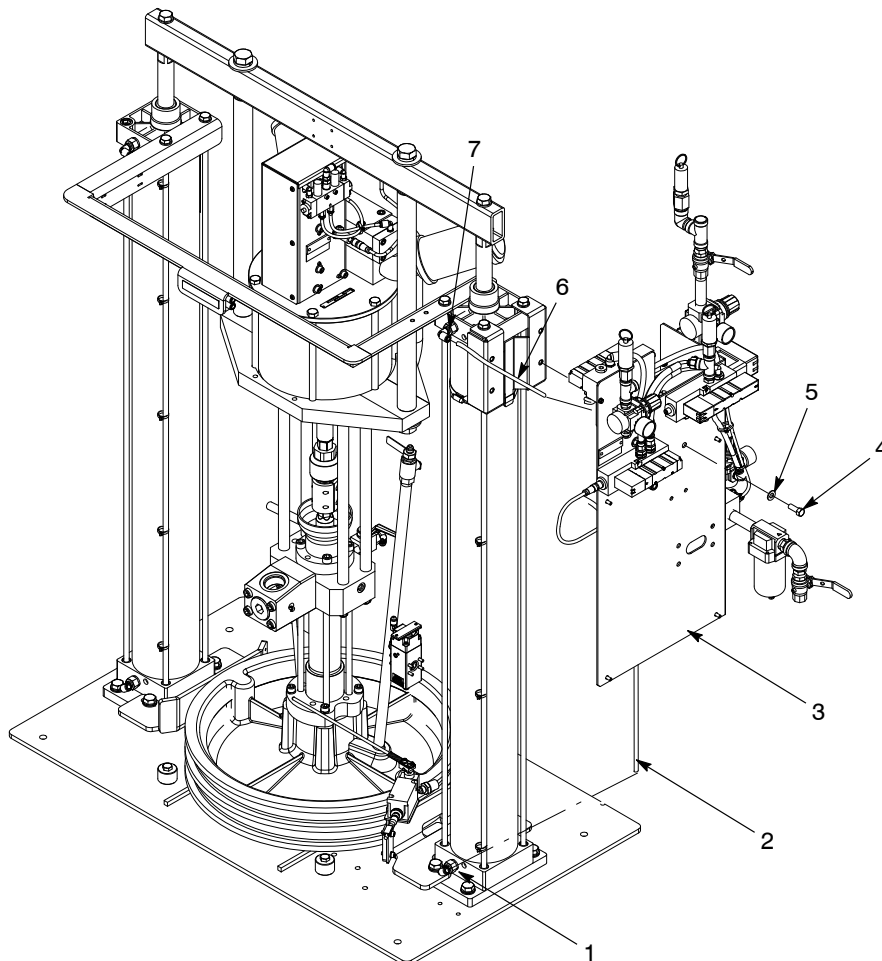

Figure 3 Installation
1. See Figure 3. Mount the control module (3) onto the bulk unloader using the supplied screws (4) and washers (5). Tighten the screws securely.
2. Connect the ram down tubing (6) to the upper cylinder fitting (7).
3. Connect the ram up tubing (2) to the lower cylinder fitting (1).